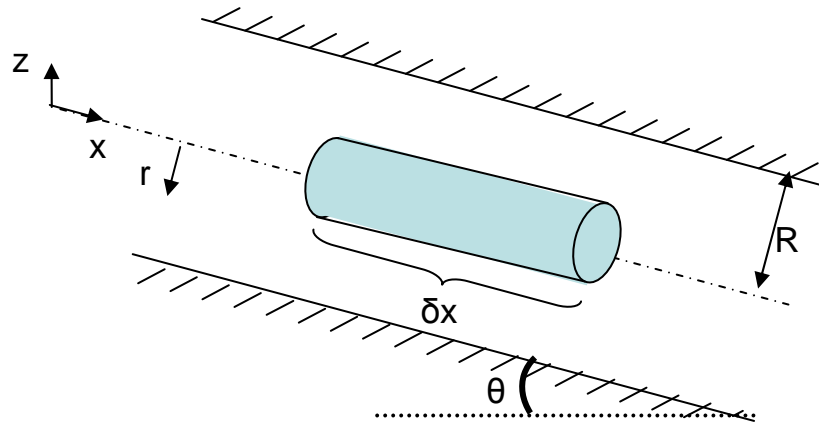

Fig. 2a
(2) Laminar flow exists in the inclined pipe shown in Fig. 2a. The flow is “downhill” being driven by both the gravitational force and an applied pressure gradient, dp/dx , along the length of the pipe. z is an upward coordinate whilst x is a coordinate along the pipe centerline.
(a) By considering the suggested fluid element in Fig. 2a, show that the velocity profile is given by: